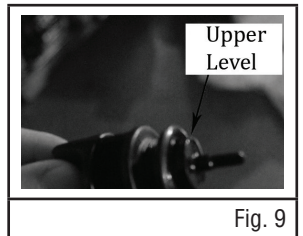

Fig. 9
3. If the oil level is below the lower level line, refill with suitable oil to the upper level line. See figure 9 and 10